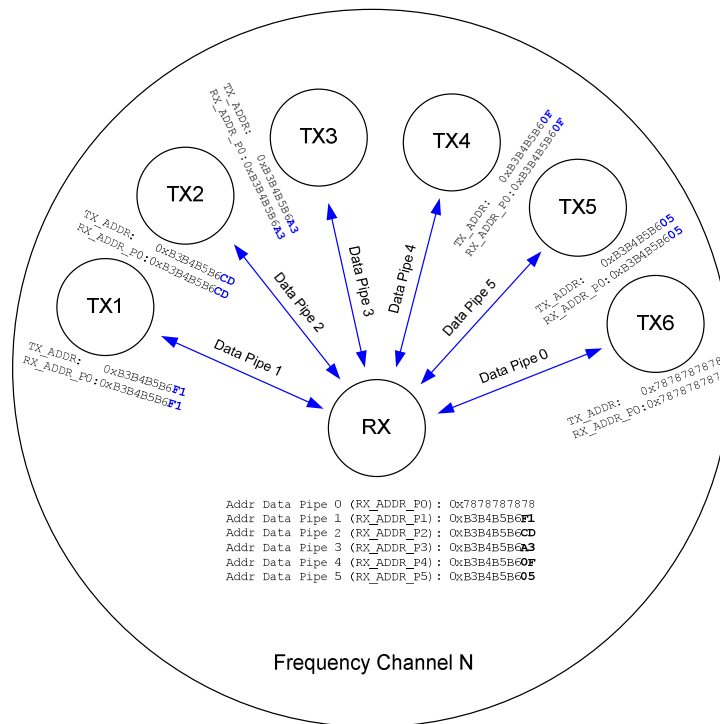

Figure 5: Example on how the acknowledgement addressing is done
nRF24L01 will use the data pipe address when acknowledging a received packet. This means that nRF24L01 will transmit ACK with the same address as it receives payload at. In the PTX device data pipe 0 is used to receive the acknowledgement, and therefore the receive address for data pipe 0 has to be equal to the transmit address to be able to receive the acknowledgement. See Figure 5 for addressing example.
2. When the application MCU has data to send, the address for receiving node (TX\_ADDR) and payload data (TX\_PLD) has to be clocked into nRF24L01 via the SPI interface. The width of TX-payload is counted from number of bytes written into the TX FIFO from the MCU. TX\_PLD must be written continuously while holding CSN low. TX\_ADDR does not have to be rewritten if it is unchanged from last transmit. If the PTX device shall receive acknowledge, data pipe 0 has to be configured to receive the acknowledgement. The receive address for data pipe 0 (RX\_ADDR\_P0) has to be equal to the transmit address (TX\_ADDR) in the PTX device. For the example in Figure 5 the following address settings have to be performed for the TX5 device and the RX device: